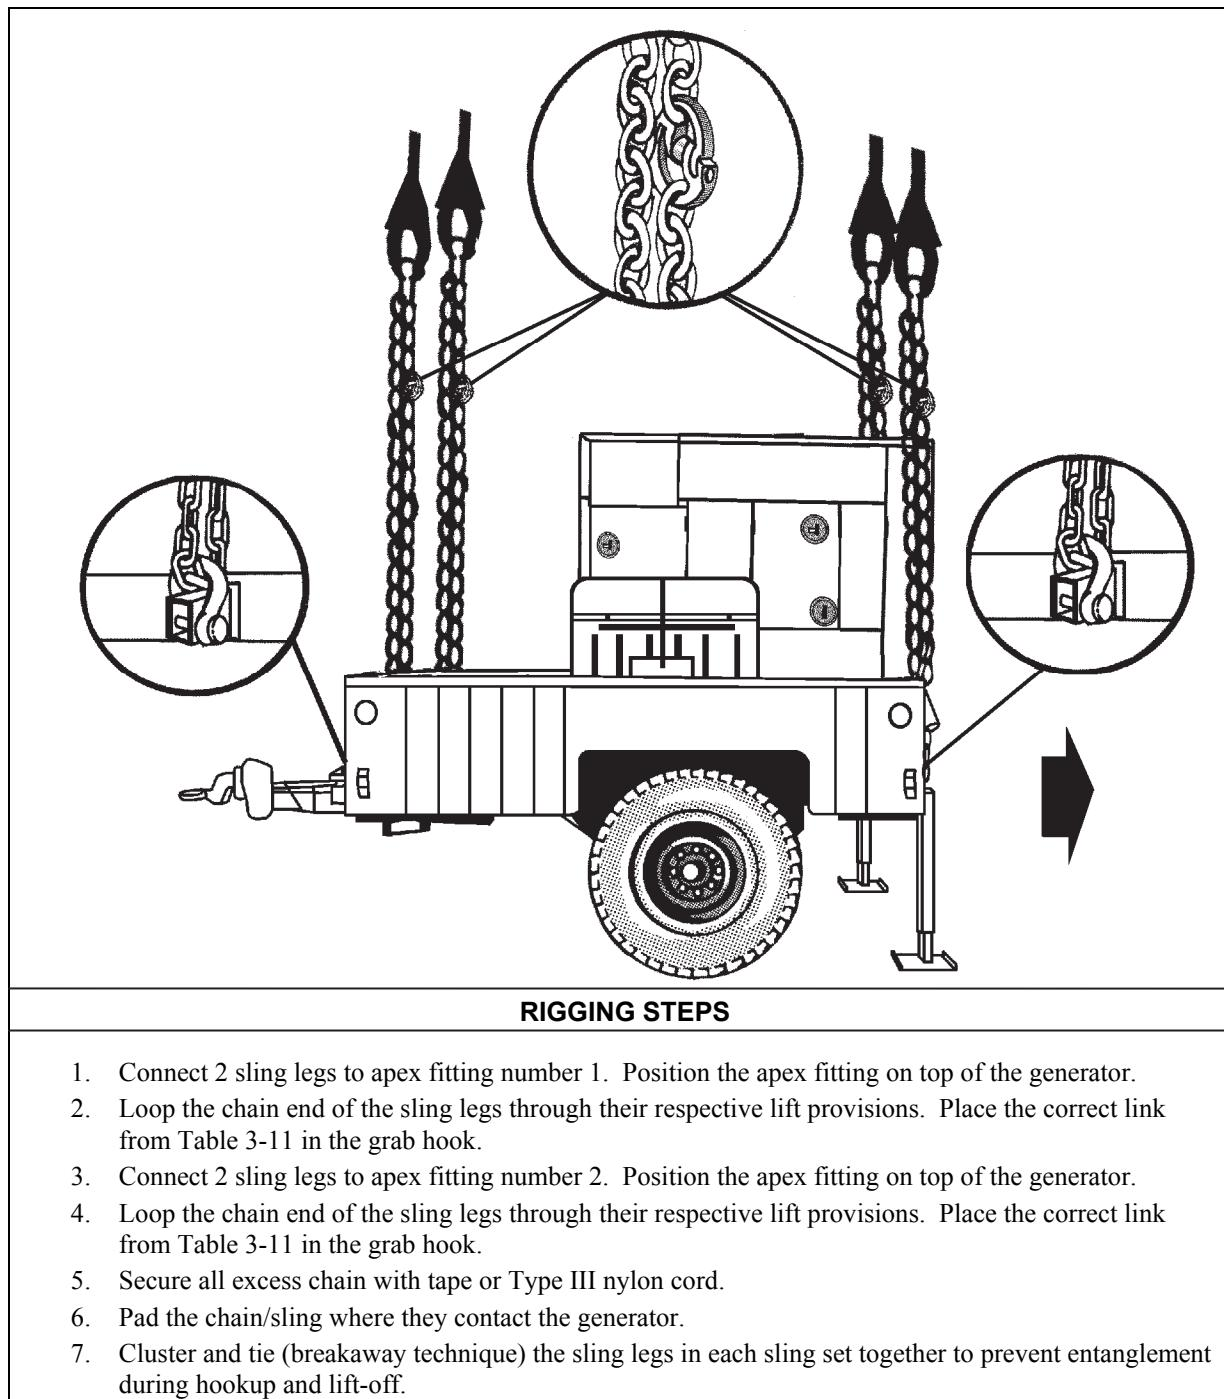

Figure 3-11. High Mobility Trailers with Generator (JSTAR)
- **Rigging.** Rig the load according to the steps in Figure 3-11.